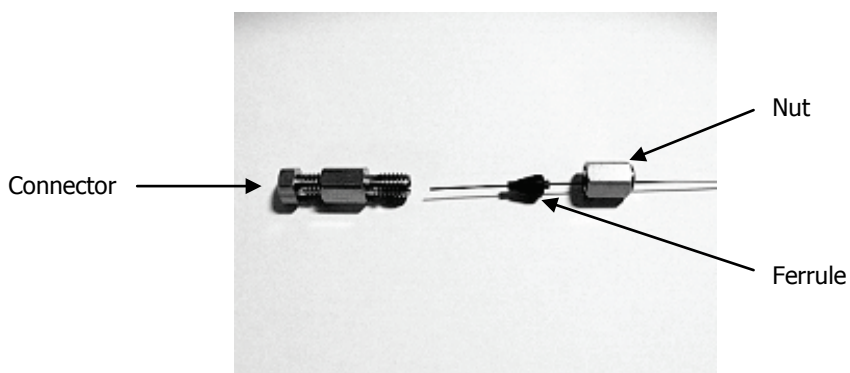

Figure 23 Correct arrangement of the nut and ferrule for connecting the transfer lines
14. Thread a stainless steel nut (P/N L8201956) and 0.25 graphite-polymer ferrule (P/N L8201957) onto the end of each transfer line, as shown in Figure 23.